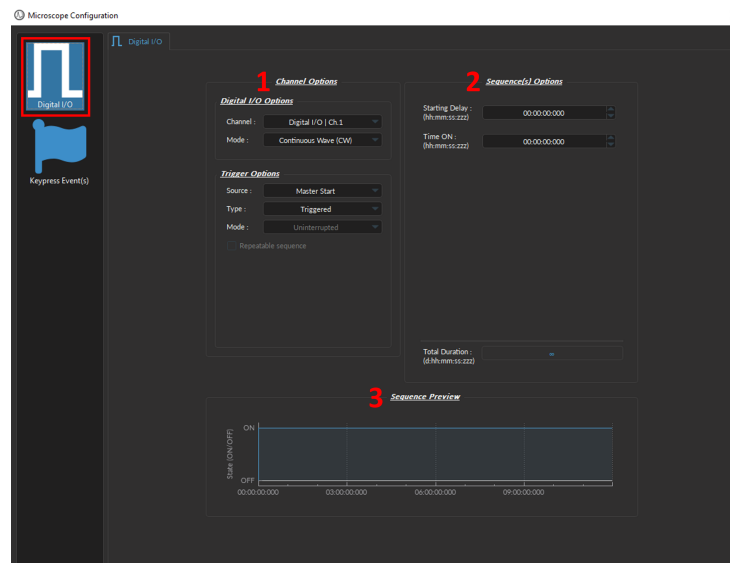

Figure 8.17: *Channel(s) configuration window, Digital I/O*
The *Channel(s) Configuration* window for the **Digital I/O** Channel is divided into three sections (Fig. 8.17): (1) the **Channel Options** (Section 8.4.1.1), (2) the **Sequence Options** & (3) **Preview** (both treated in Section 8.4.1.2).